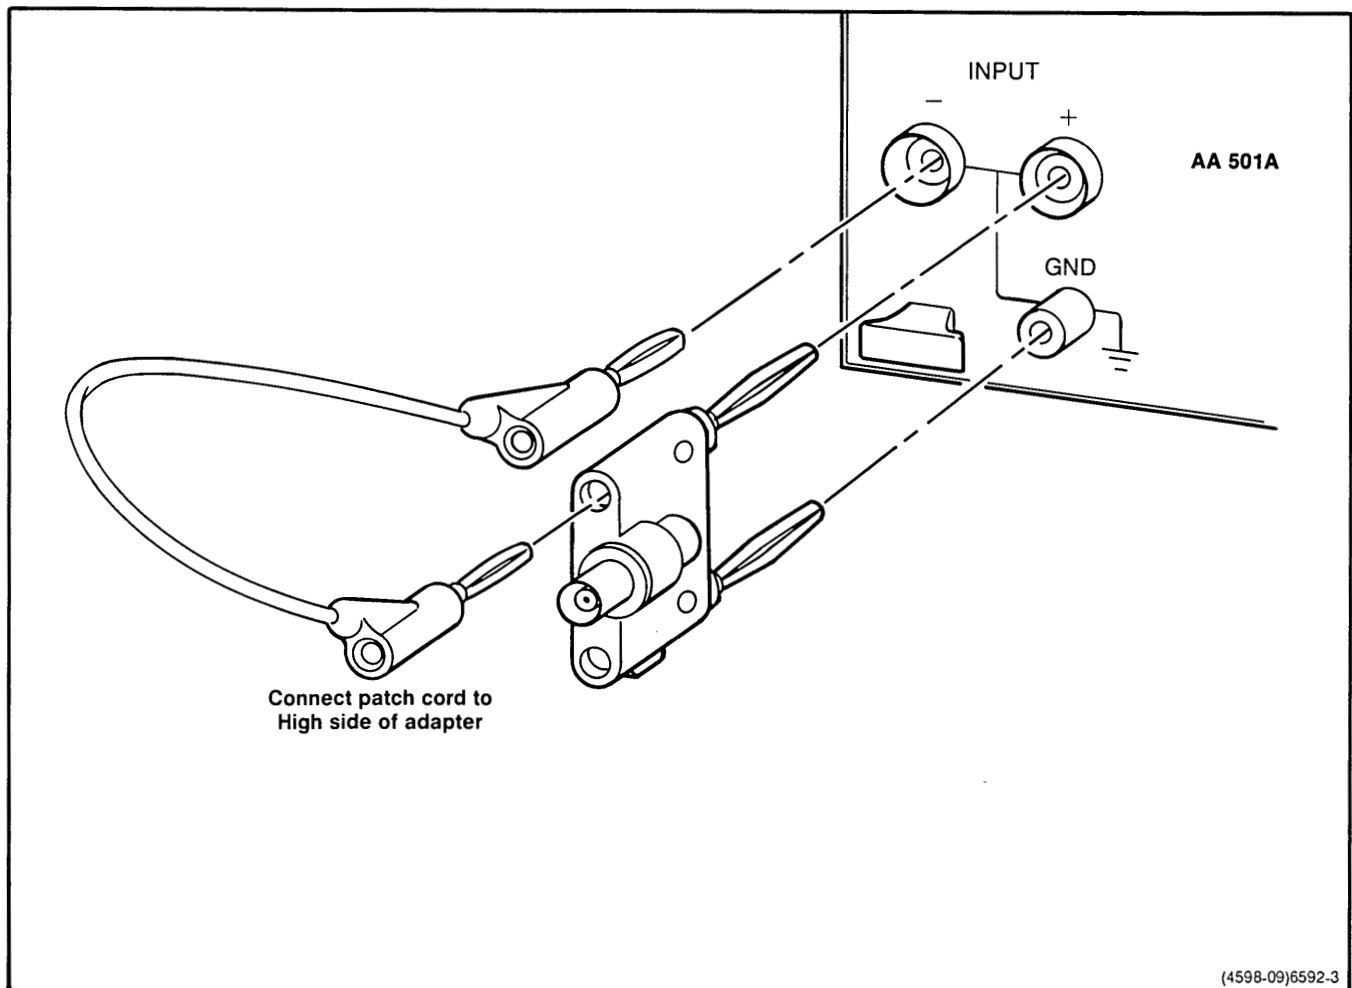

Fig. 4-2. AA 501A common mode input connection.
a. Connect the ac calibrator to the input terminal of the AA 501A as shown in Fig. 4-2.